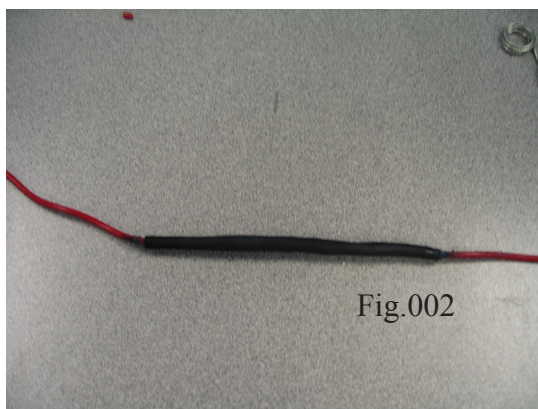

Fig.002
Step 2: You will want to use a marine grade heat shrink tubing or at the least standard heat shrink filled with silicone. Working your way from the center out with your heat source, shrink the tubing down around the resistors. (Fig 002) Now install new ends (Preferably the AA Weather resistant style included with p/n 300378-C1 & 300378-F1) as per steps 3 through 7.